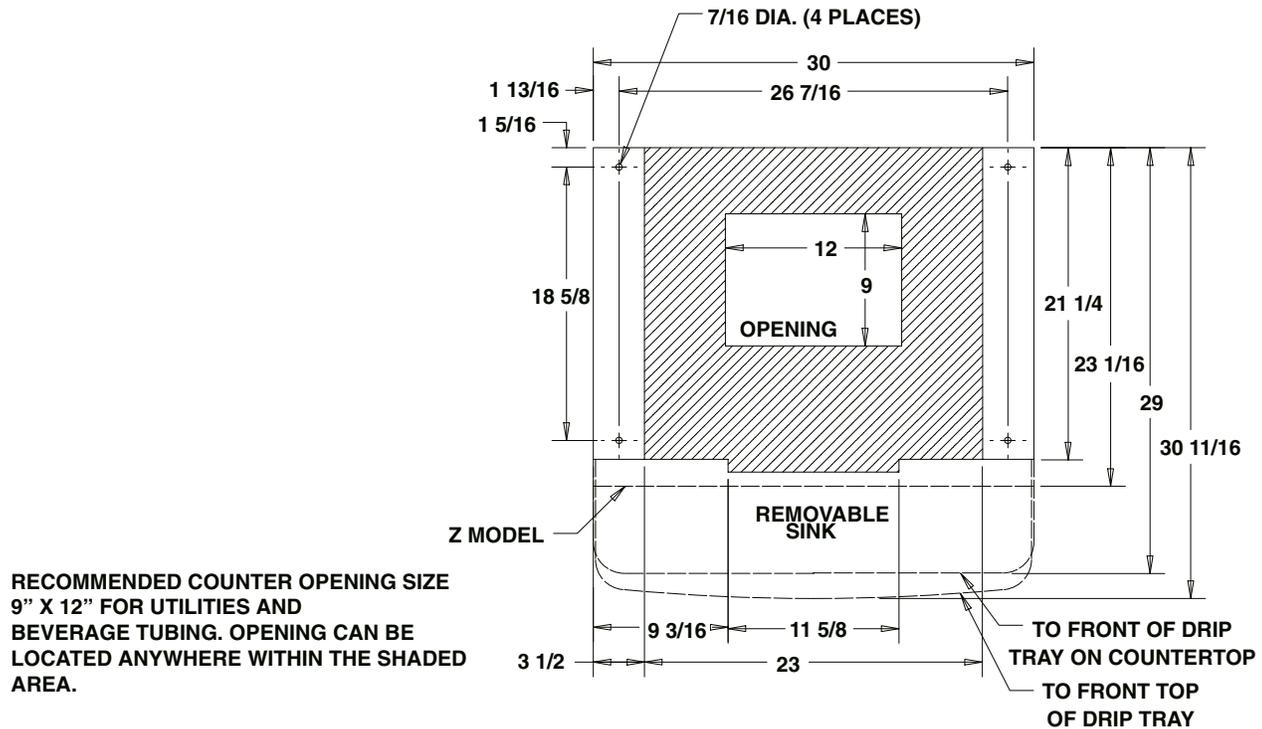

FIGURE 2. MOUNTING TEMPLATE
The ice dispenser must be sealed to the counter. The MOUNTING TEMPLATE (see Figure 2) indicates where openings can be cut in the counter. Locate the desired position for the dispenser, then mark the outline dimensions on the counter using the MOUNTING TEMPLATE. Cut openings in counter.
2. The beverage tubes, drain tube and power cord are routed through the large opening in the bottom of the unit. See the MOUNTING TEMPLATE (see Figure 2), for locating the required clearance hole in the counter for these utility lines.